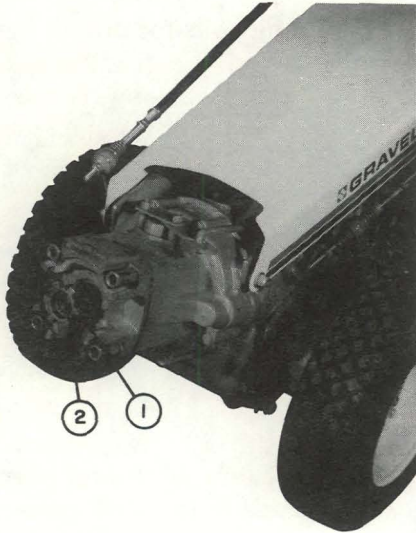

Fig. 1
1. Slide the attachment dog onto the splined PTO shaft of the tractor. See fig. 1.